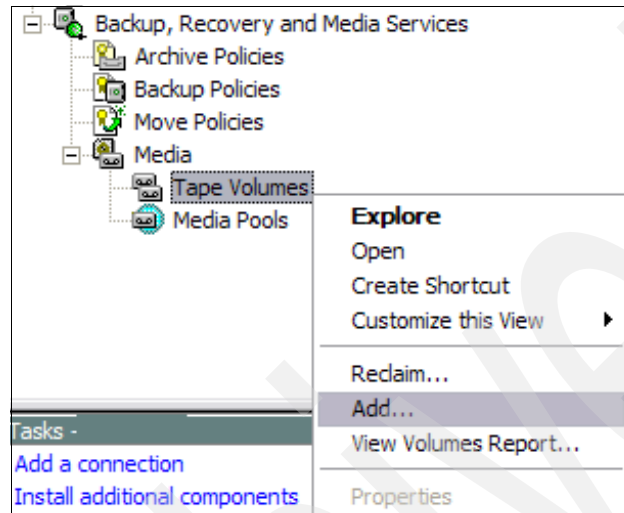

Figure 7-46 BRMS adding media
1. Right-click **Tape Volumes** and select **Add**, as shown in Figure 7-46.